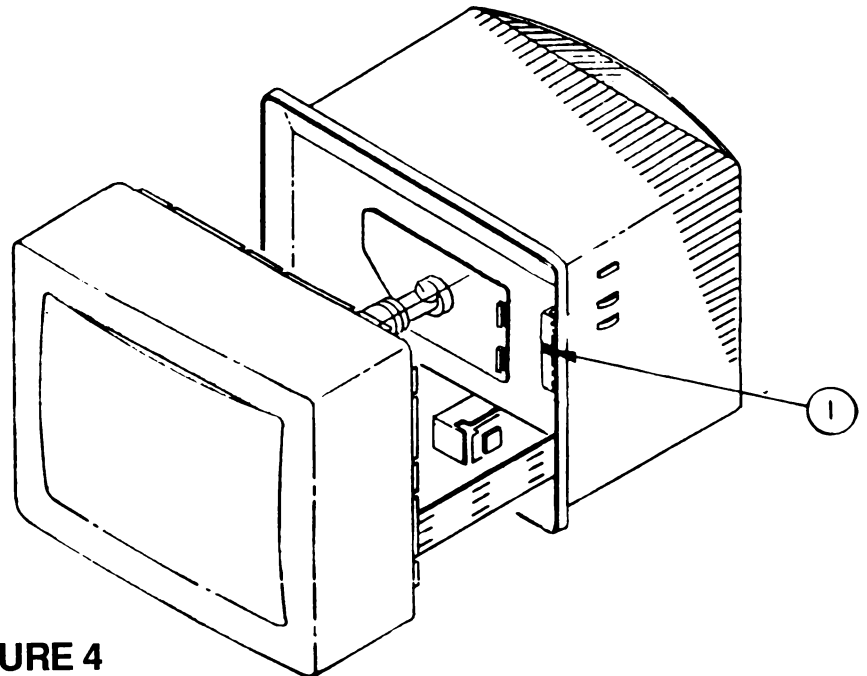

FIGURE 4
4. Remove the screw (Figure 4, #1) that secures the switch panel to the rear cover, and then remove the switch panel.
5. Install the screw (Figure 4, #1) that secures the switch panel to the rear cover.